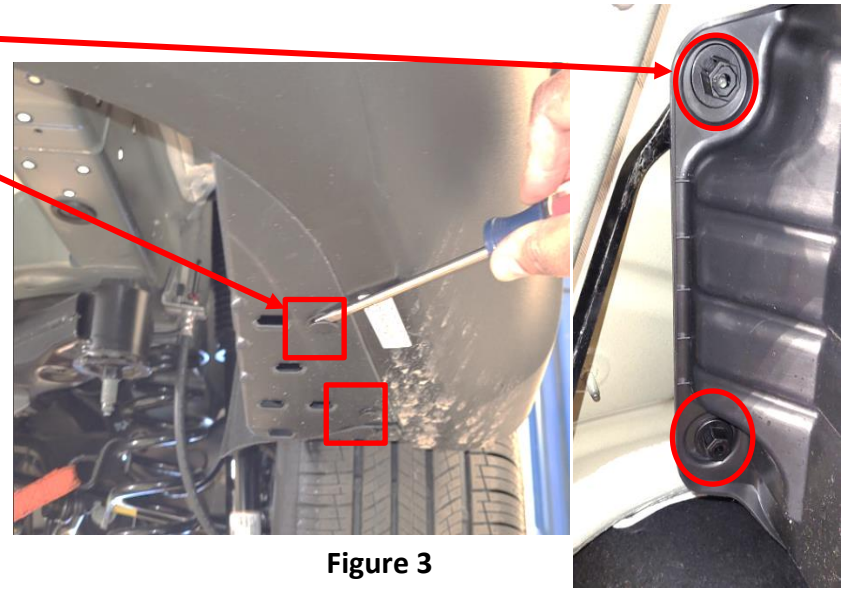

Figure 3
- b) Using flat head screwdriver and pry bar, remove (5) plastic rivets from passenger side underbody panel, see **Figure 3**. Keep it for reinstallation.